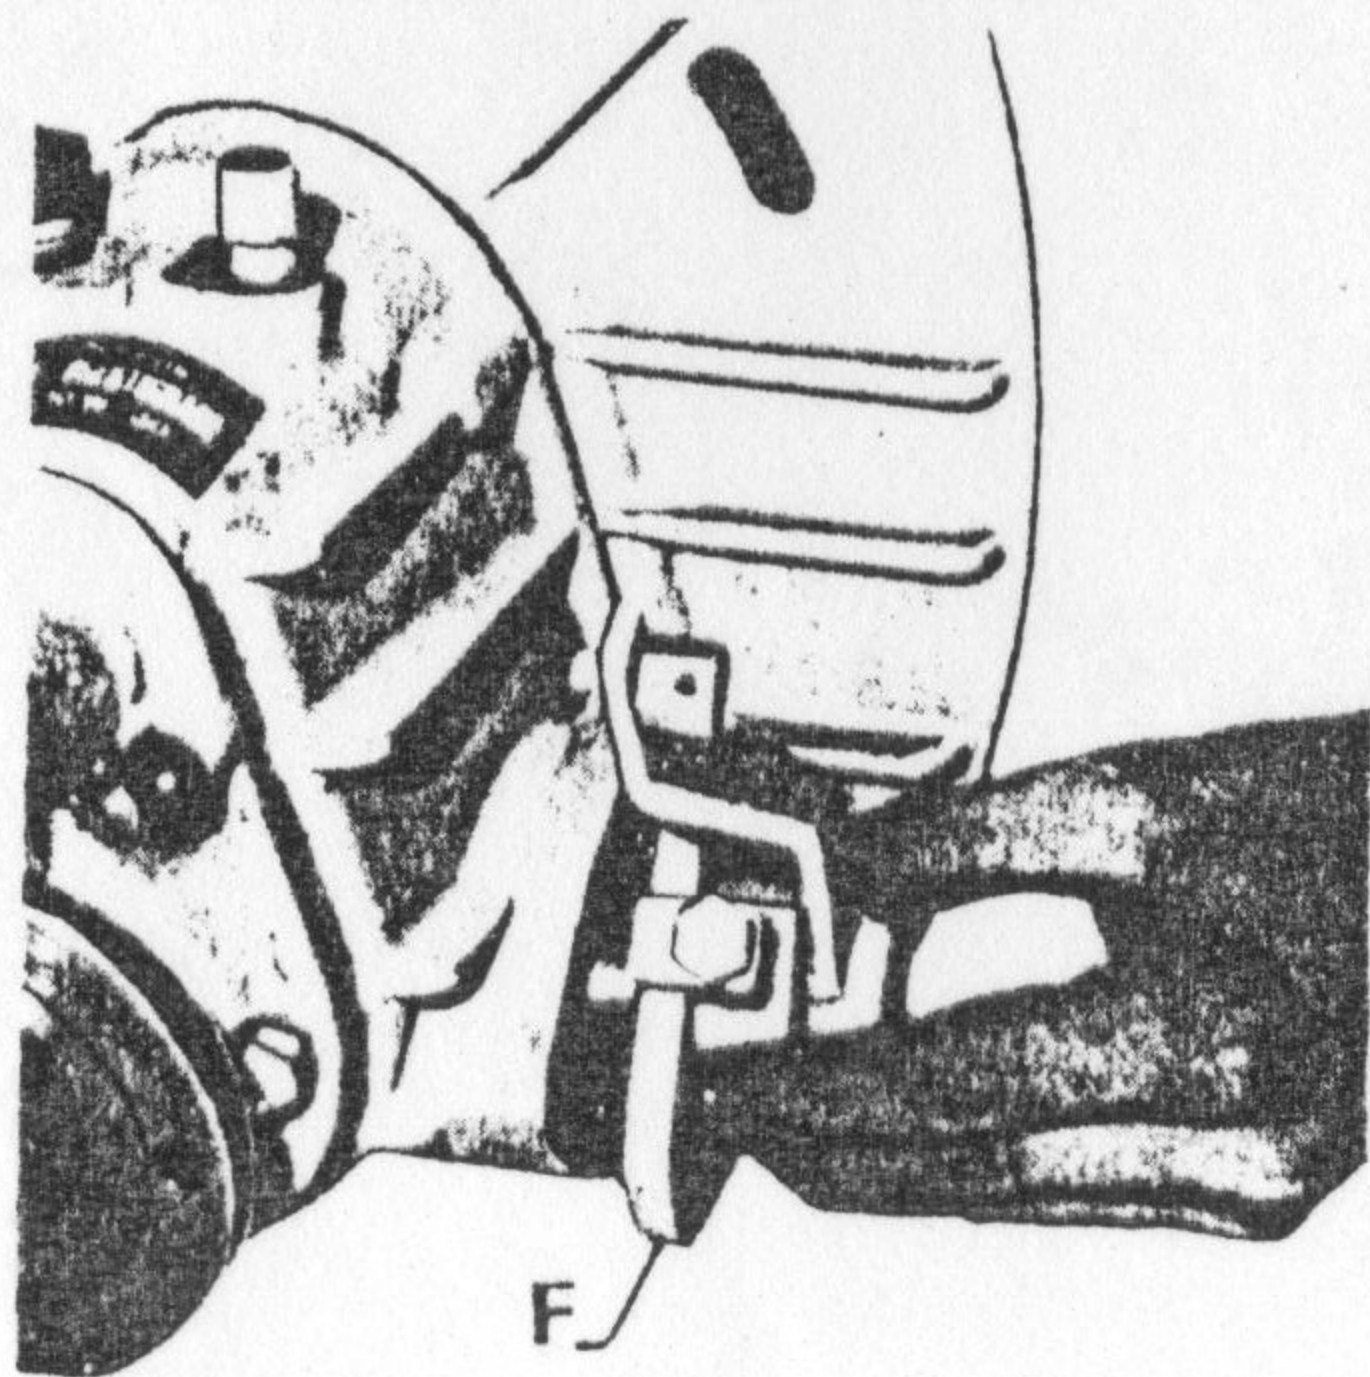

Fig. E3
- the control system (3 screws M.8) pulling it towards the exterior by the flange «F» Fig. E3. Take care not to lose the control finger.